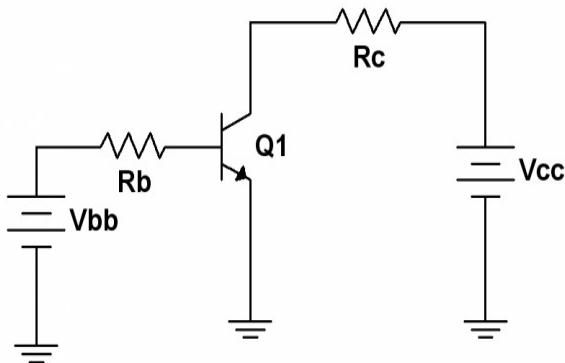

Figure 1
2. Consider the circuit of Figure 1 with $V_{bb} = 11V$, $V_{cc} = 15V$, $R_b = 330\text{ k}\Omega$ and $R_c = 1.2\text{ k}\Omega$. Assume $V_{BE} = 0.7$ volts. Further, assume that beta is 150 (a typical value for this device in this application). Calculate the expected values of I_B , I_C and I_E , and record them in the “Theory” columns of Table 1. Note that the theoretical values will be the same for all three transistors.
4. Build the circuit of Figure 1 with $V_{bb} = 11V$, $V_{cc} = 15V$, $R_b = 330\text{ k}\Omega$ and $R_c = 1.2\text{ k}\Omega$. Measure and record the base, collector and emitter currents, and record them in the first row of Table 1. Find the deviations between the theoretical and experimental currents, and record these in Table 1.
8. One way of improving the circuit of Figure 1 is to redesign it so that a single power supply may be used. As noted previously, the base current is largely dependent on the value of V_{bb} and R_b . If the supply is changed, the resistance can be changed by a similar factor in order to keep the base current constant. This is just an application of Ohm's law. Based on this, determine a new value for R_b that will produce the original I_B if V_{bb} is increased to the V_{cc} value (i.e., a single power supply is used). Record this value in Table 3.